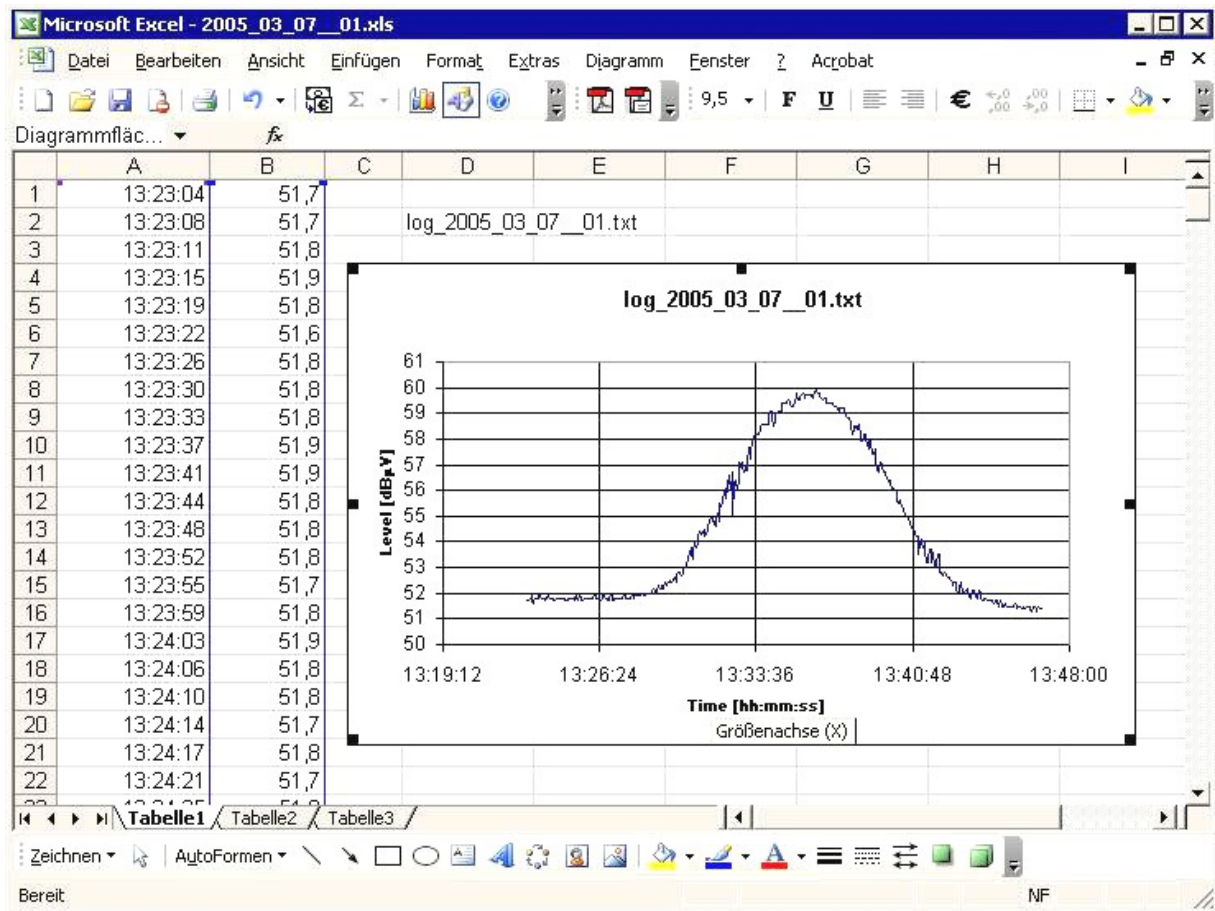

Figure 20 Postprocessing and visualization with Microsoft Excel
- Convert the data type of first column (A) into time format:
- Add labels and ammend the layout via the property settings (Figure 20)